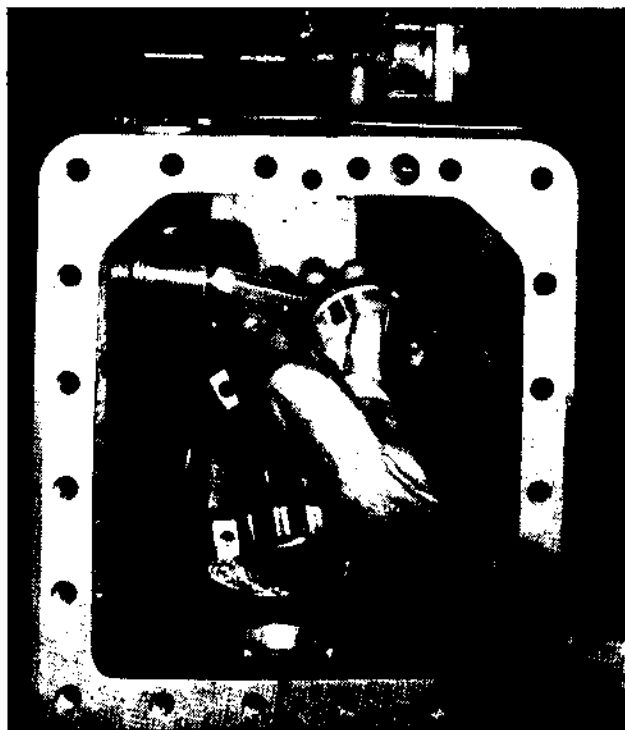

Figure 74
2. Pull the connecting rod and piston assemblies out of the cylinders through the crankcase opening (Figure 74).
1. Reaching the handhole opening, place the piston and connecting rod assembly into the correct cylinder (Figure 74). Turn the rod so the match mark faces the pump end of the compressor.